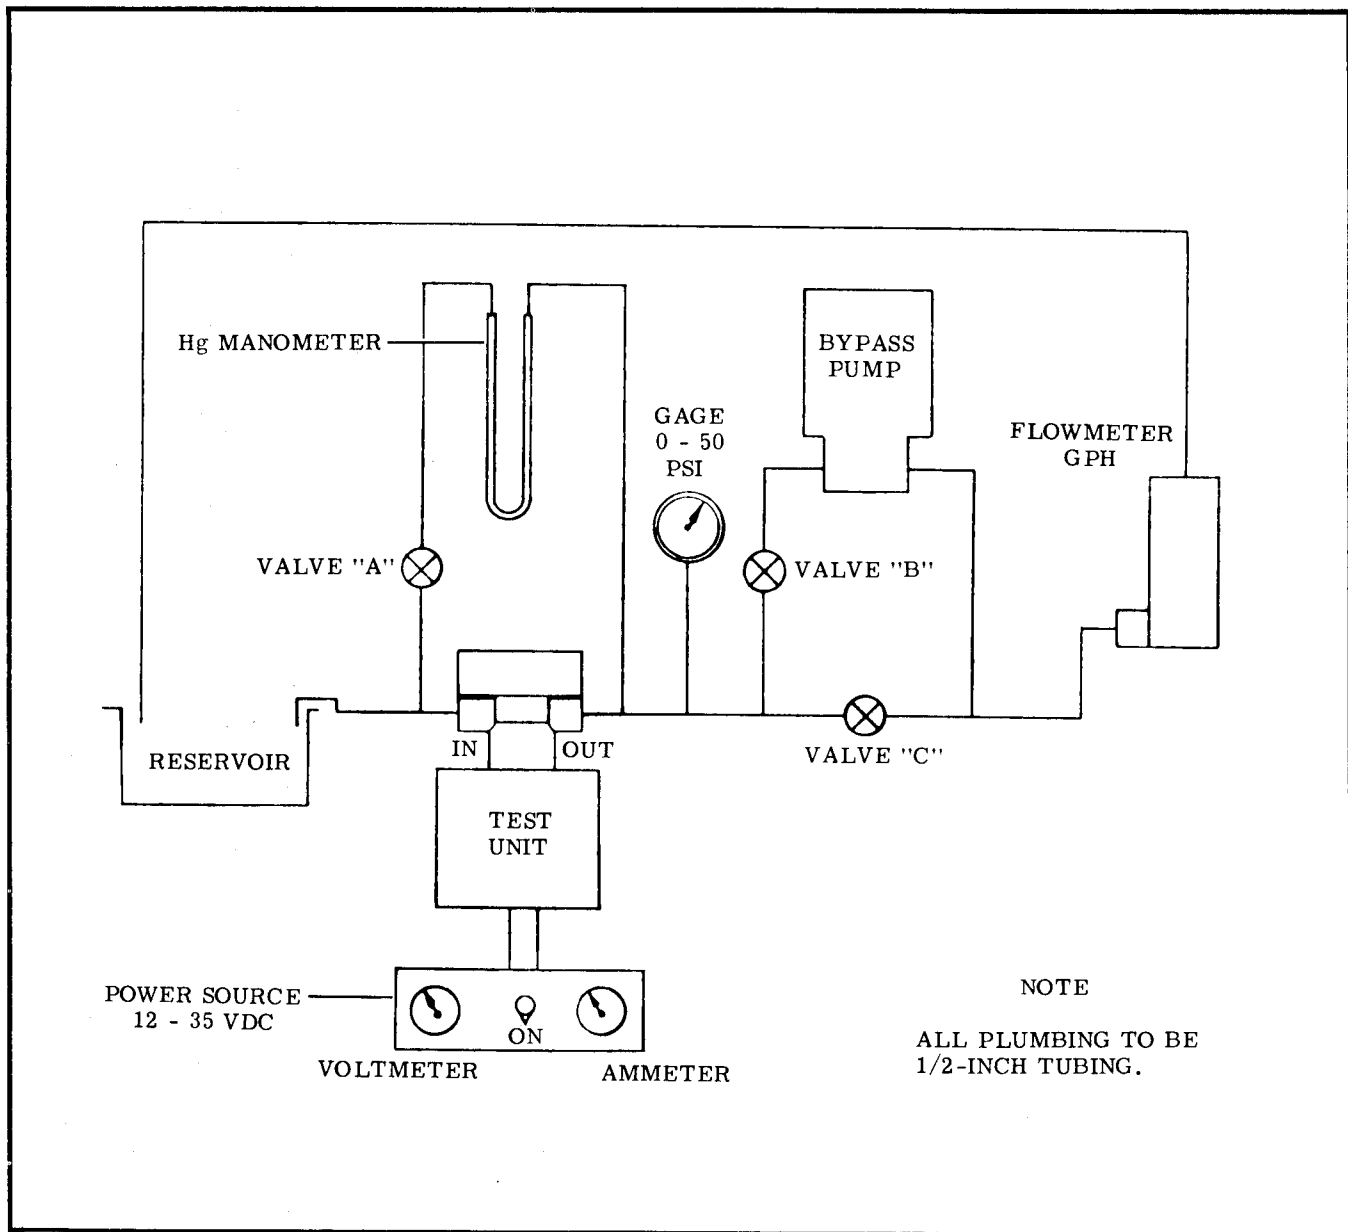

Figure 13-8. Test Stand Schematic
- a. Install pump assembly in appropriate test stand. (See figure 13-8.)
- b. While maintaining a no flow condition, adjust plug (33) until a relief pressure of 23 to 24 psi is obtained.
- c. After correct pressure is obtained, seal plug (33) at threads with Epocast Epoxy No. 212-10 mixed with hardener No. 9816 (Reference: Furane Plastics.)
- d. Allow Epoxy to dry and install nameplate (34).
13-40. FUNCTIONAL TEST PROCEDURE. Each unit shall be set up in test stand as shown in figure 13-8 and functionally tested as follows: